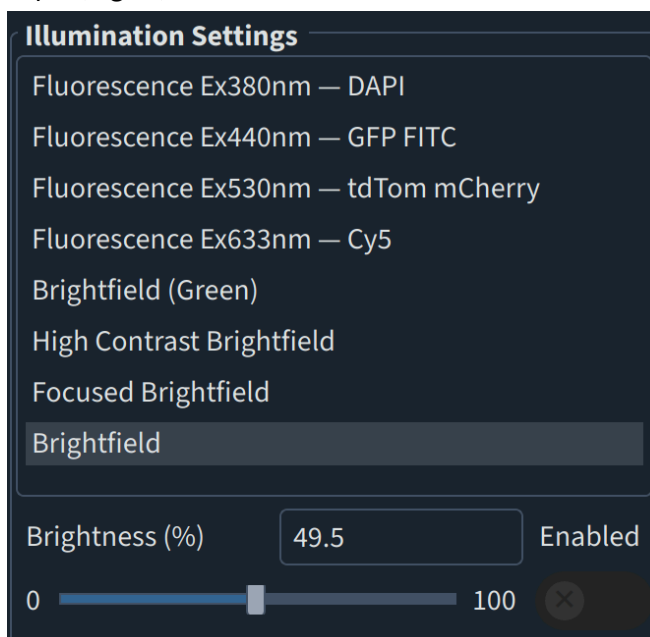

Fig 10: GUI LED board settings
**Brightness:** Located under “Illumination Settings”, this will control the overall brightness of the LEDs used to illuminate the sample (Fig 10).